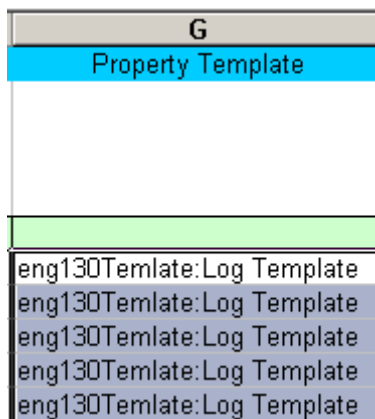

Figure 283. Applying the New Log Template Specification to All Objects
4. Click on a corner of the cell, and pull the corner down to highlight the Property Template column for the remaining objects. The template specification will automatically be entered in the highlighted cells when the mouse button is released, Figure 283.